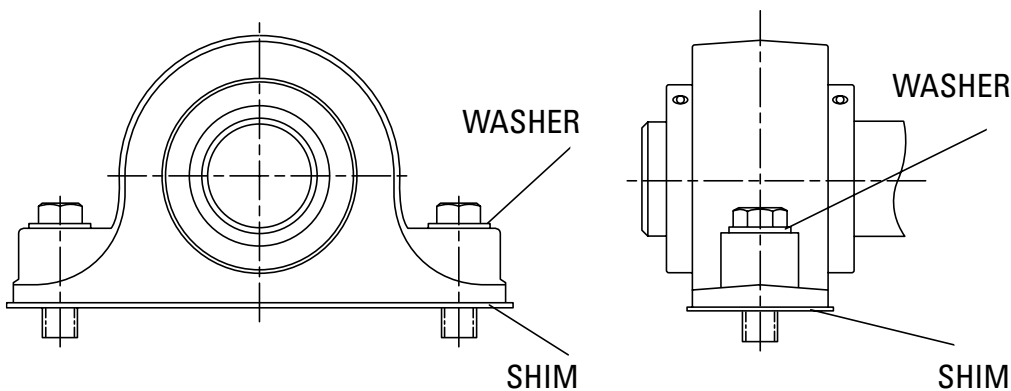

Fig. 1. Use Washers And Full Shims.
4. Loosely install the mounted bearing mounting bolts. Check the mounted bearing alignment. Verify mounting surfaces are in the same flat plane to help achieve good alignment. If shimming is required to minimize misalignment, use full shims across the entire housing base where possible (fig. 1). Washers should be properly sized to the bolt diameter and should not be an SAE grade, which is smaller.
5. Loosely install the mounted bearing mounting bolts. Check the mounted bearing alignment. Verify mounting surfaces are in the same flat plane to help achieve good alignment. If shimming is required to minimize misalignment, use full shims across the entire housing base where possible (Figure 1). Washers should be properly sized to the bolt diameter and should not be an SAE grade, which is smaller.